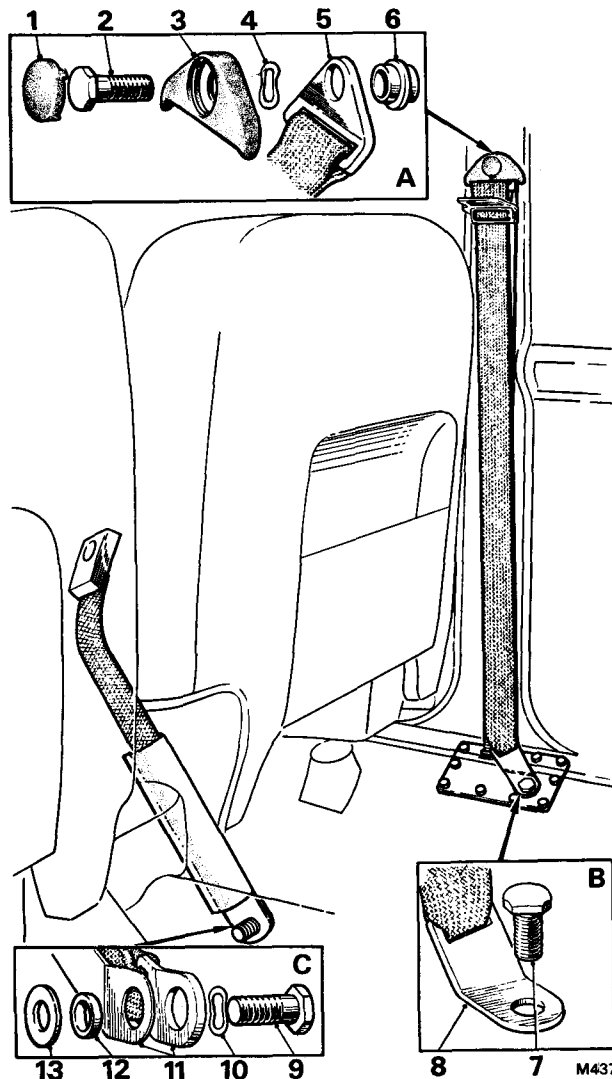

FIG. S99 FRONT SEAT BELT MOUNTINGS—LATER TYPE BRITAX AUTOMATIC SEAT BELT (4-Door Saloon and Long Wheelbase Non-division Cars)
On cars fitted with the Autolock III seat belt it will first be necessary to remove the button from the bracket cover to gain access to this anchorage bolt (see Fig. S99); to remove the button, insert the tip of a small screwdriver into the recess at the bottom of the button then gently lever the button out of the bracket cover.
- (b) Cars fitted with the Autolok III seat belt (see Fig. S99). Ensure that the distance piece is fitted under the head of the bolt securing the reel unit to the support bracket and also that the mounting lug of the reel unit is located between the two protrusions on the support bracket; tighten the bolt to between 21 lb. ft. and 23 lb. ft. (2,903 kgm. and 3,179kgm.).